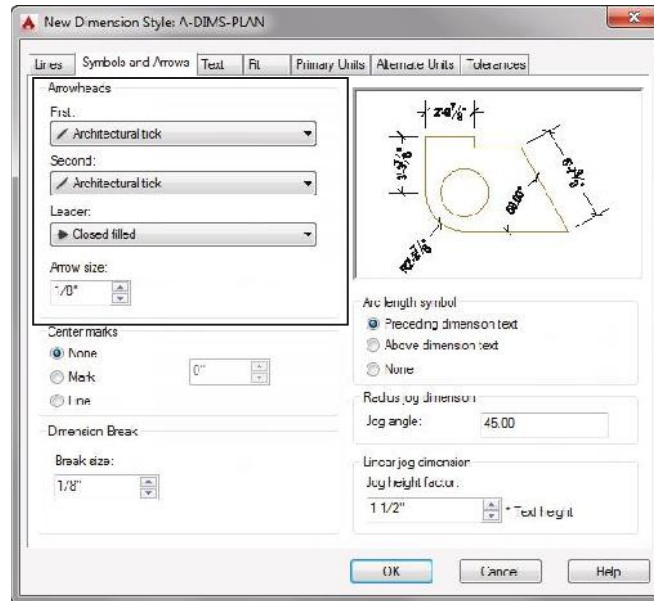

FIGURE 12.6: The Symbols And Arrows tab with the settings for the A-DIMS-PLAN style
7. Click the Symbols And Arrows tab, and change the following parameters within the Arrowheads group to match Figure 12.6: